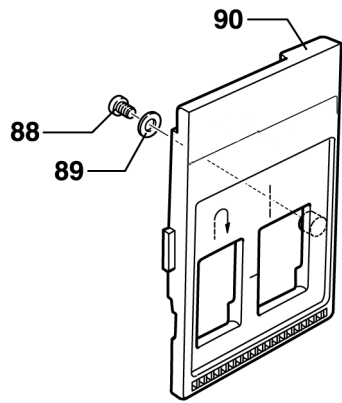

Fig. 29
- Take out screw 88 with washer 89 (fig. 29).
- Refit cover plate 90 (fig. 29) and tighten it with washer 89 and screw 88.